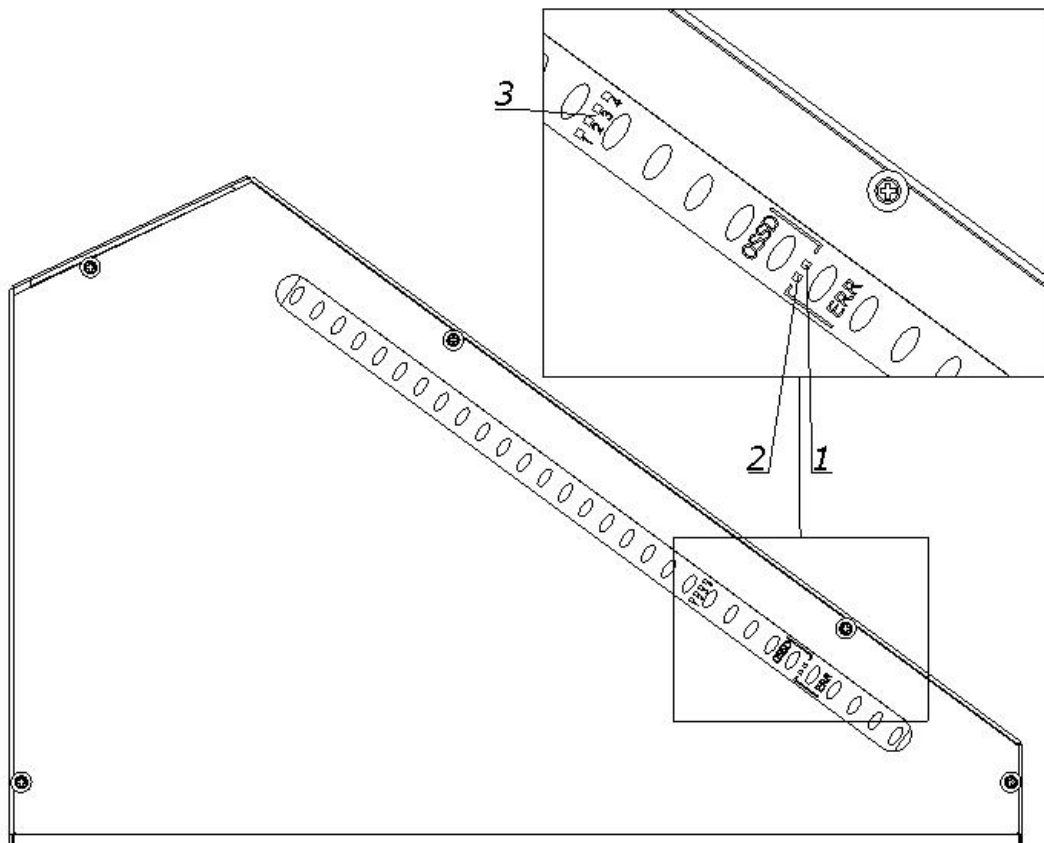
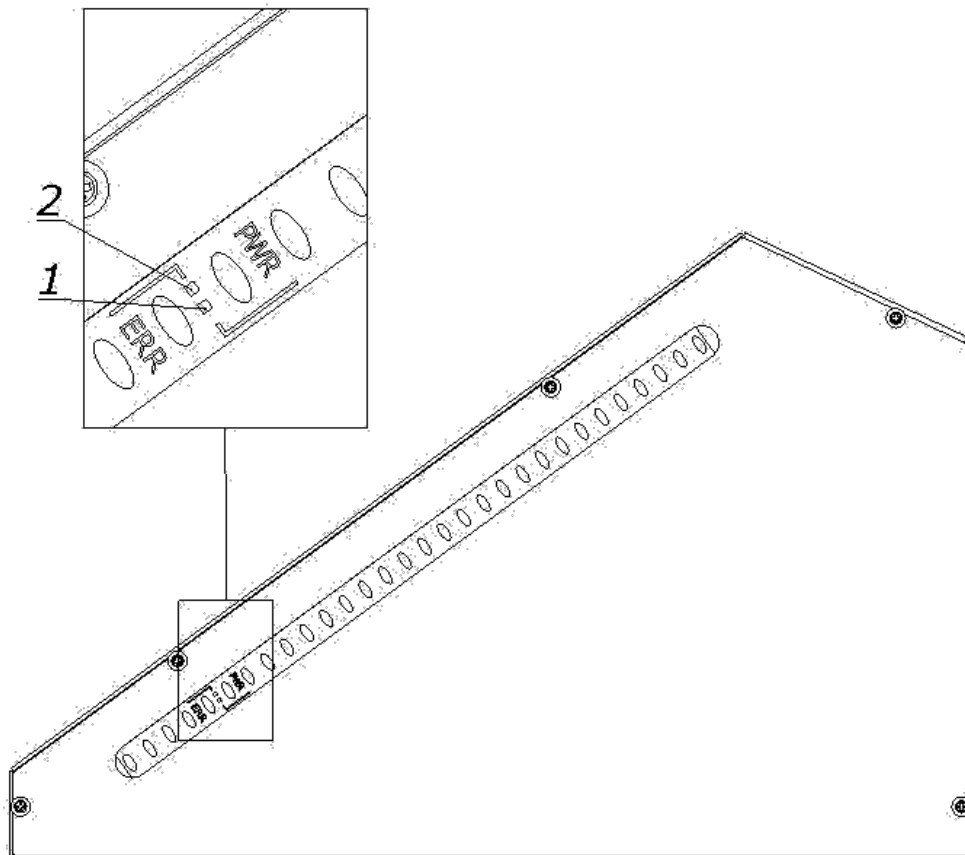
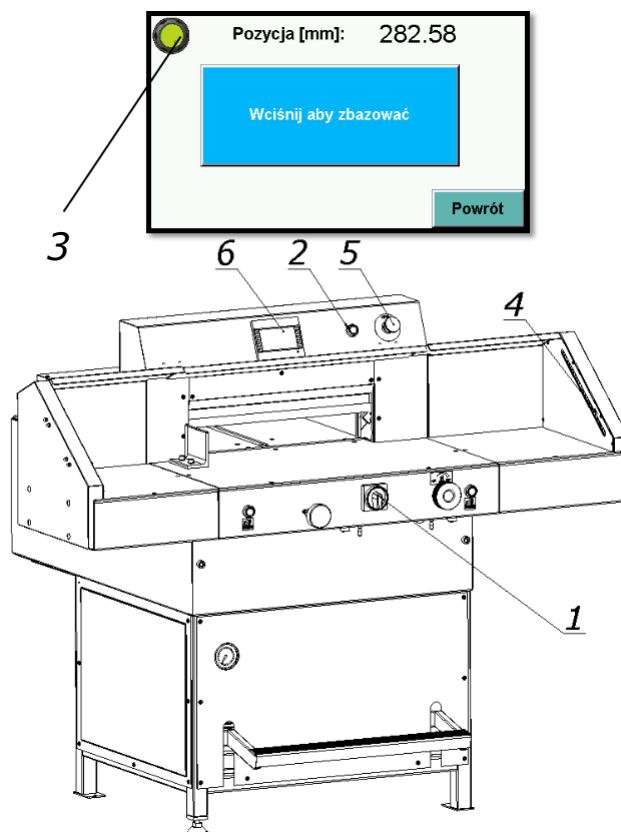
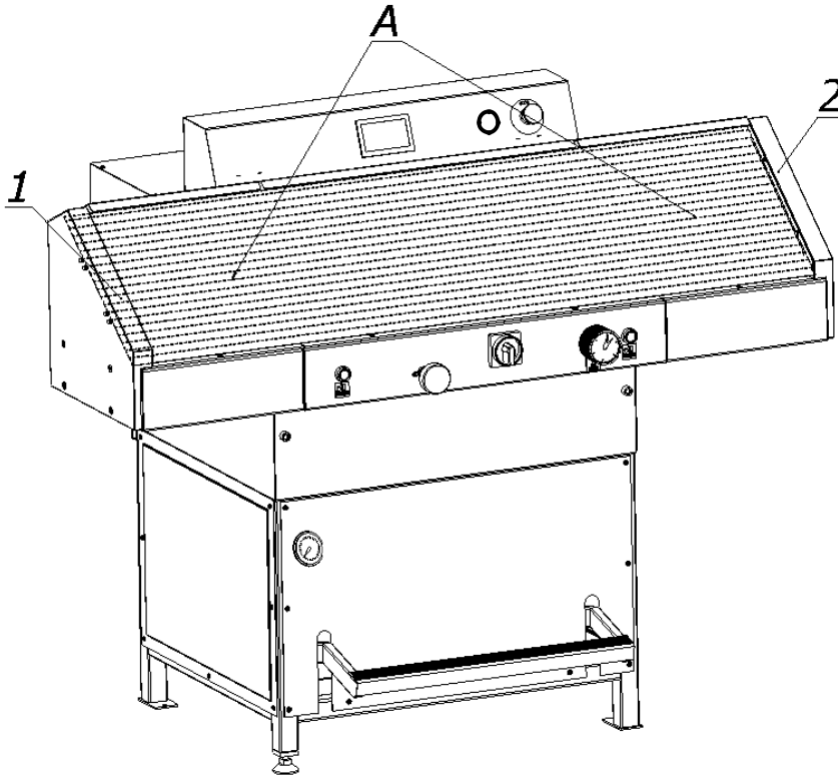

Figure 11 Receiver indicators
Figure 12 Transmitter Indicators+
Figure 15 Arrangement of the elements used when switching the cutter.
Figure 16 Safety curtain
Set the main switch 1 to "ON" 1 position (Fig. 15)
1. Press the green button 2 (Fig.15)
- green LED 3 on the program unit 6 display lights up (fig.15)
- the green OSSD 1 LED lights up (Fig.11) in the receiver 4 (Fig.15)
When the cutter is switched on, the transmitter 1 and receiver 2 are initialized (fig. 16). All transmitter and receiver LEDs will light for a moment. After initialization the receiver indicates the quality of the setting using four blue LEDs 3 (Fig.11). (Table 9)
The setting indicator extinguishes after a suitable time when the safety light curtain is set (the LED of the device switching the output signal: green item 1 figure 11) and only the PWR LED of transmitter 1 (fig.12) and LED 1 (fig. 11) device for switching the receiver's output signal.
1. Press the button 5 (Fig.15)
1. Unlock button 5 (turn it around) (Fig.15)